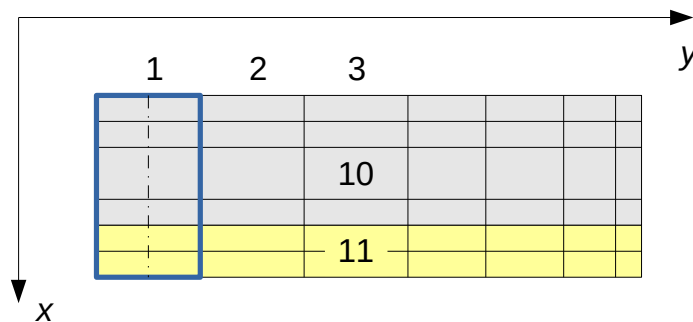

Figure 3.1: Panel Columns
1. Panel columns extend in x-direction (cf. Figure 3.1).
2. Lifting surfaces must be aligned in x-direction from leading to trailing edge (cf. Figure 3.1).
returns the x-coordinates, the pressure of the 5th configuration and the y-coordinate of the first panel column of lifting surfaces 10 and 11 (cf. Figure 3.1)